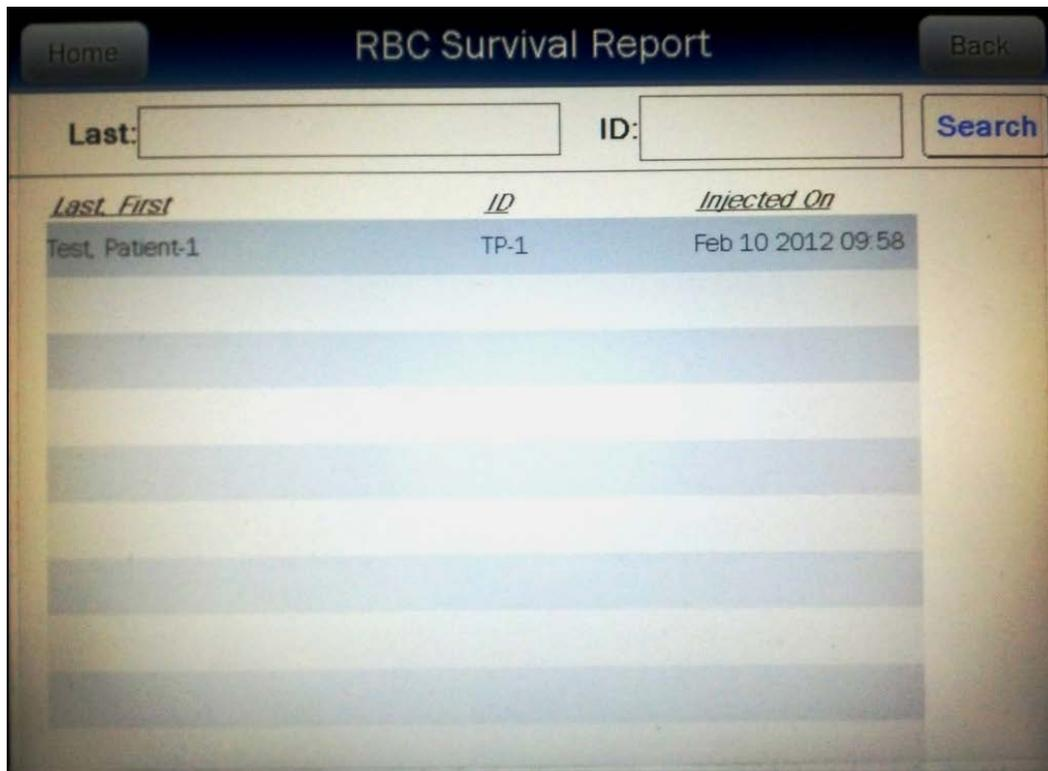

Figure 11-31 Search RBC Survival Tests Screen – All Patients
To view all completed patients, touch the **SEARCH** button. The screen will appear similar to that shown in Figure 11-31 Search RBC Survival Tests Screen – All Patients.
1. From Figure 11-30 RBC Survival Test Search Screen or Figure 11-31 Search RBC Survival Tests Screen – All Patients, touch the **Last:** field box. Figure 11-11 Alphanumeric Keypad Screen will appear. Input the Patient's exact last name. If the exact spelling of the last name is not known, input the first letter of the last name and then touch the **WILDCARD** (%) button in the lower left of the alphanumeric keypad. For example, if you want to see all Patients with last names that begin with the letter "C", input "C%". Once the last name is input, touch the **ACCEPT** button. The RBC Survival Tests Search screen will re-appear with **Last:** field box populated with the entered search criteria. Touch the **SEARCH** button. Any Patient that matches the requested search criteria will be displayed.
2. From Figure 11-30 RBC Survival Test Search Screen or Figure 11-31 Search RBC Survival Tests Screen – All Patients, touch the **ID:** field box. Figure 11-11 Alphanumeric Keypad Screen will appear. Input the Patient's exact ID. If the exact spelling of the ID is not known, input the first character of the ID and then touch the **WILDCARD** (%) button in the lower left of the alphanumeric keypad. For example, if